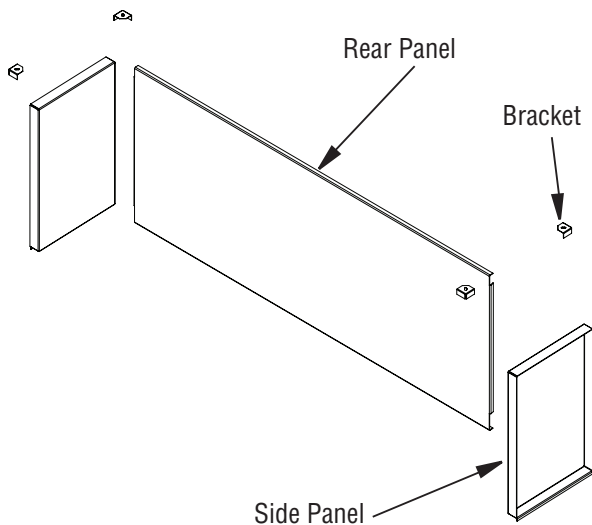

Figure 19 - Removing Rear Interior Wall for See-Thru Applications
1. Through firebox opening in the front of the fireplace, unscrew 4 corner brackets from the firebox top (See Figure 19).